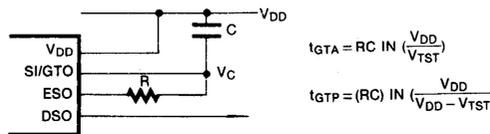

Fig. 5 Basic Steering Circuit
Before registration of a decoded tone pair, the receiver checks for a valid signal duration. This check is performed by an external RC time constant driven by the ESO. A logic high on the ESO causes V_C (see Fig. 5) to rise as the capacitor discharges. Providing signal condition is maintained (ESO remains high) for the validation period (t_{GTP}), V_C reaches the threshold (V_{TST}) of the steering logic to register the tone pair, thus latching its corresponding 4 bits code (see Table 1) into the output latch. At this point, the GTO output is activated and drives V_C to V_{DD} . GTO continues to drive high as long as the ESO remains high, finally after a short delay to allow the output latch to settle, the "delayed steering" output flag (STO) goes high, signalling that a received tone pair has been registered. The contents of the output latch are made available on the 4-bit output bus by raising the three-state control input (OE) to a logic high. The steering circuit works in reverse to validate the interdigit pause between signals. Thus as well as rejecting signals too short to be considered valid, the receiver will tolerate signal interruption (drop outs) too short to be considered a valid pause. This capability, together with the capability of selecting the steering time constants externally, allows the designer to tailor performance to meet a wide variety of system requirements.
In a situations which do not require independent selection of receive and pause, the simple steering of Fig. 5 is applicable. Component values are chosen according to the following formula: